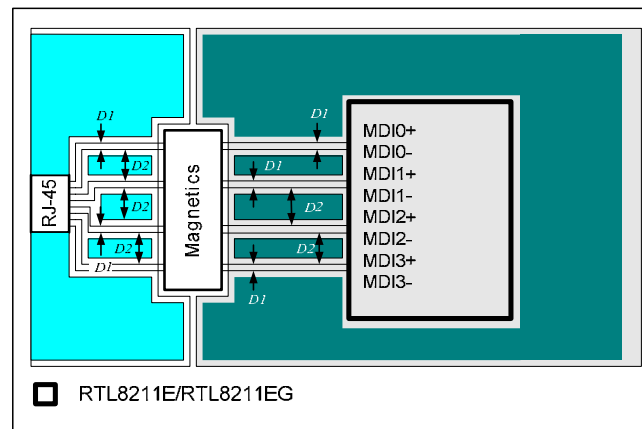

Figure 3. MDI Signals
- The two traces of each pair should be placed close to each other (D1) since they are differential pair signals to each other and provide a strong cancelling effect on noise. D1 can be the width of each of the two differential traces. E.g., if the width of the trace is 8mil, then D1 can be 8mil wide (Figure 3).
- We suggest that there should be more than 30mil spacing between different differential pairs to minimize crosstalk coupled from other pairs (D2 in Figure 3). In addition, Ground Plane shielding can be used to separate all four signal pairs. However, a good layout should avoid the following situations: